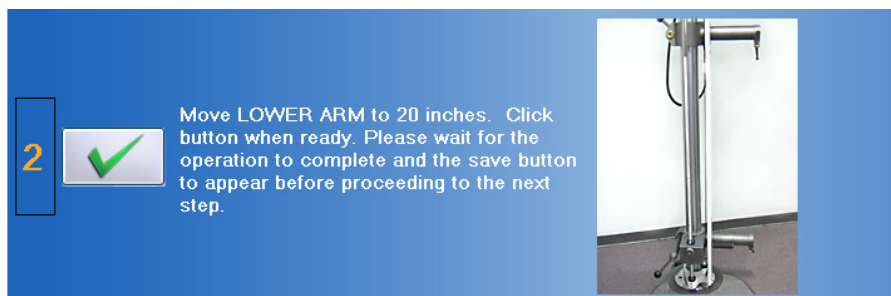

Figure 8-16. Column Lower Arm - Set the Final Height
Step 4. Click on  to set the final height (Figure 8-16).